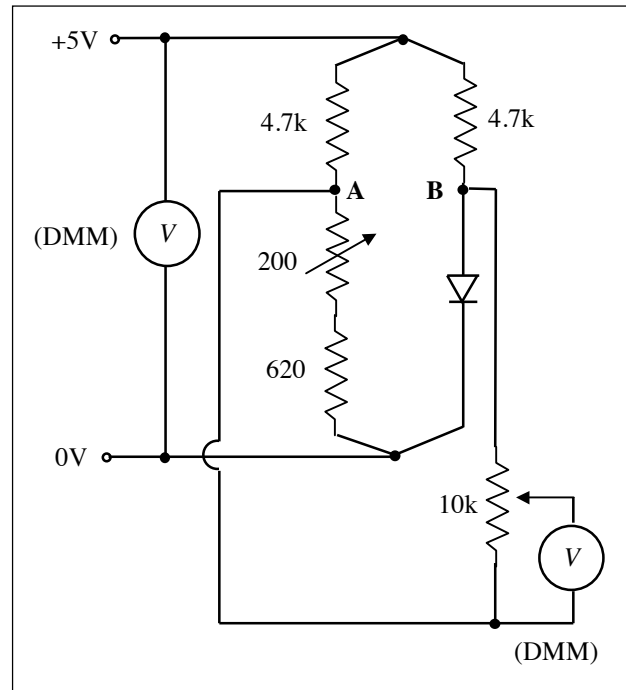

Figure 4 Final circuit for digital thermometer
- Replace the DMM across the output **AB** by the 10 kΩ helipot, and connect the DMM itself across the centre and an outside terminal of the helipot — this is shown in figure 4.